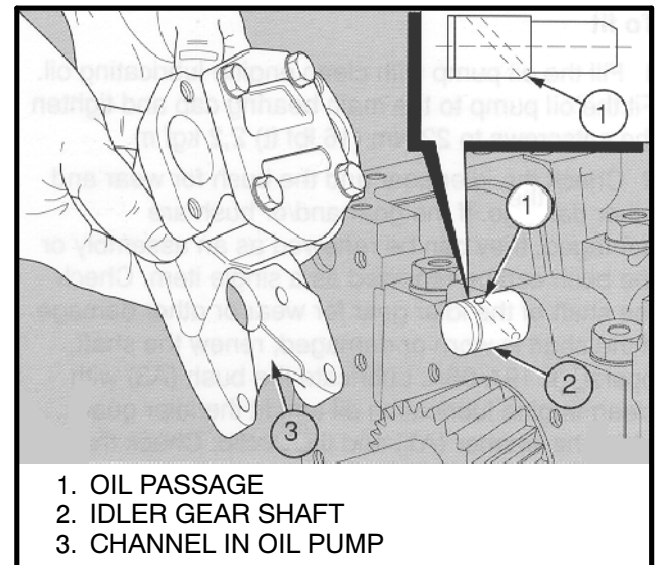

FIGURE 126. IDLER GEAR SHAFT
The shaft for the idler gear in the oil pump is installed in the front main bearing cap. See FIGURE 126. If this idler gear shaft must be replaced, use the procedures in the following paragraphs. The idler gear shaft has an oil passage (1) for lubrication of the bushing for the idler gear. Engine oil from the front main bearing passes through a channel in the body of the oil pump and then through the oil passage to the idler gear.